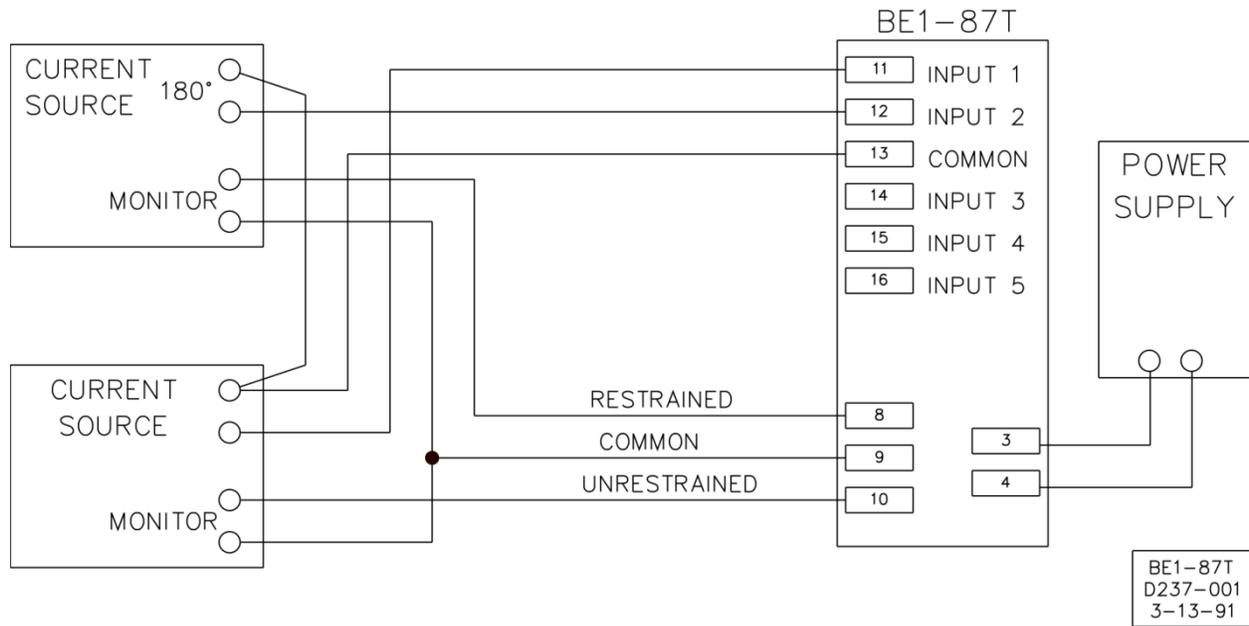

Figure 47. Test Setup, Single-Phase
**Step 9. Three-Phase Units Only:** Repeat Steps 6, 7 and 8 for phases B and C. (Refer to Figures 47 through 50, as appropriate, for the terminal numbers of the phase B and C inputs.)
**Step 2.** Connect the input being tested to the current source, as shown in the appropriate **TEST SETUP**, Figures 47 through 50.
- Step 1.** Set the **INPUT 1** (tap) switches to the 2.0 A position. Connect the relay as appropriate (refer to Figures 47 through 50) using terminals 11 & 13 (Input 1 for both single-phase and three-phase units).
- Step 1.** Set the **INPUT 1** (tap) switches to the 2.0 A position. Connect the relay as appropriate (refer to Figures 47 through 50; except set both current sources to 0° for second-harmonic restraint verification) using terminals 11 & 13 (Input 1 for both single-phase and three-phase units).
- Step 1.** Set the **INPUT 1** (tap) switches to the 2.0 A position. Connect the relay as appropriate (refer to Figures 47 through 50; except set both current sources to 0° for fifth-harmonic restraint verification) using terminals 11 & 13 (Input 1 for both single-phase and three-phase).
- Step 1.** Connect the relay as appropriate (refer to Figures 47 through 50).